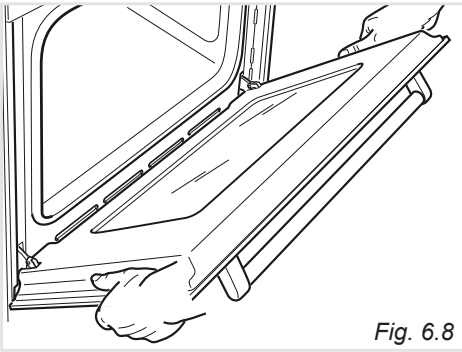

Fig. 6.8
- Hold the door as shown in fig. 6.8.